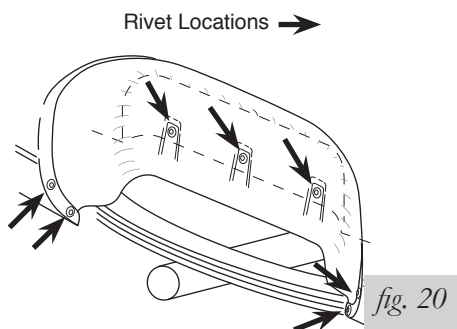

fig. 20
- Replace the remaining fenderwell liner rivets carefully. Push the rivets through the fenderwell liner by hand. They should push through completely (fig. 20).